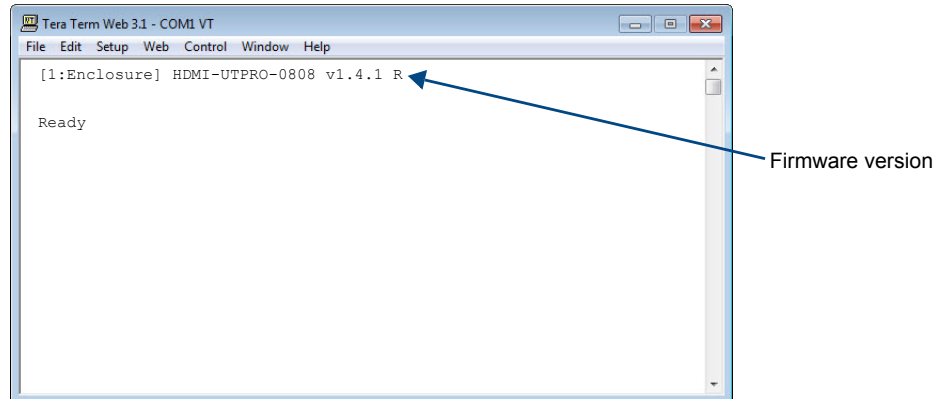

FIG. 70 Power-up splash screen in terminal emulation program
- At system boot, the `~scrv0i1!` setting is displayed (FIG. 70 on page 108).